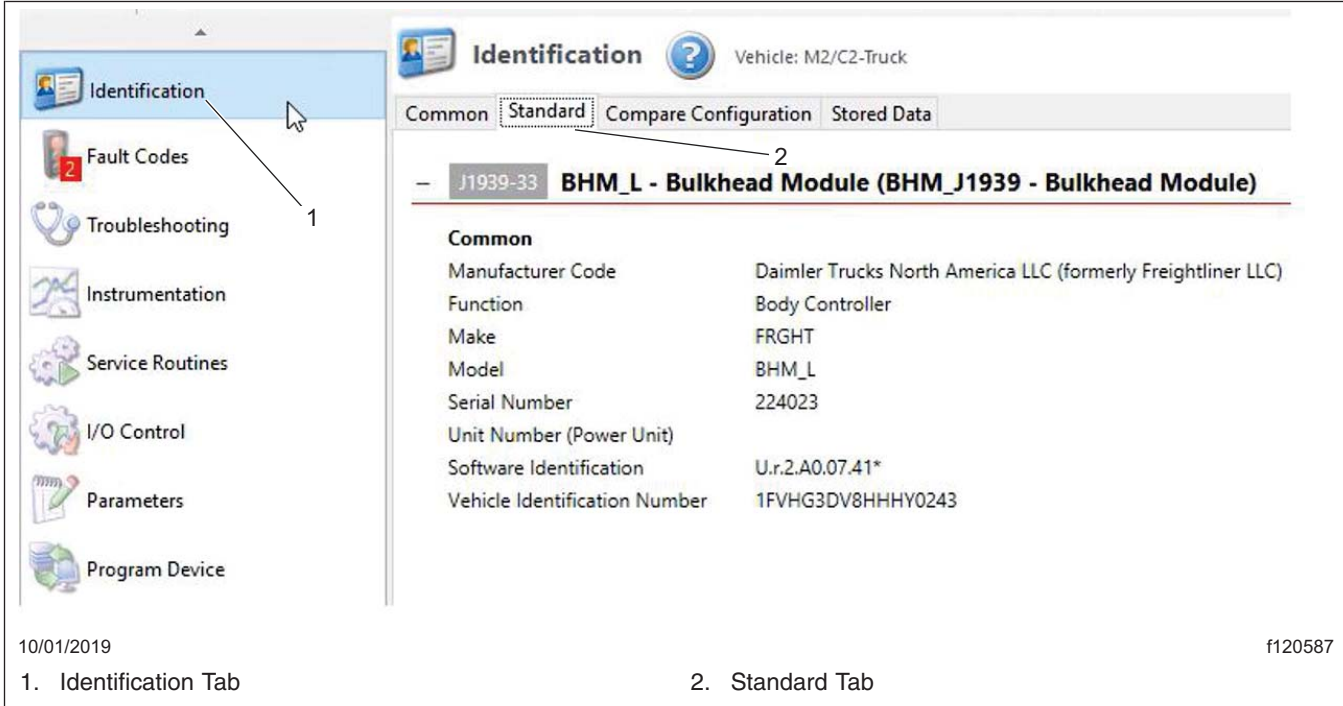

Fig. 2, Verifying the Correct Software
4. Go to the "Identification" tab then click on the "Standard" tab. See Fig. 2.